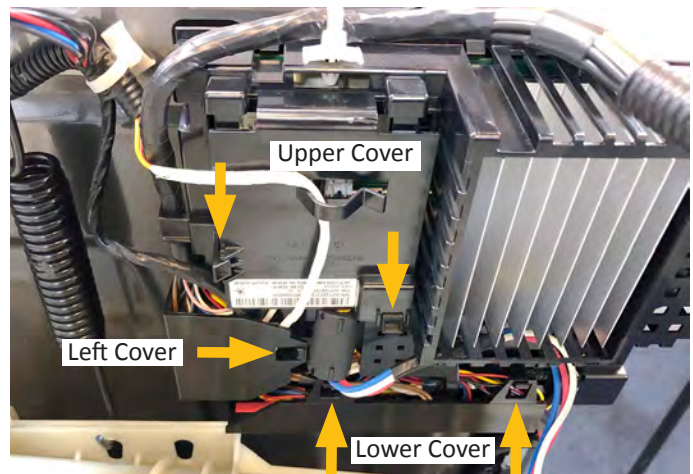

Figure 2
10. Open the three (3) connector covers (as shown in Figure 2) and disconnect all connectors from the ACU.
NOTE: Reference the ACU Board diagram on page 3-7 "ACU Connectors & Pinouts - Figure 2" for connector identification and locations